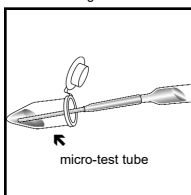

Figure 3
6. Holding the VACUette almost horizontally, touch the tip to the contents of the micro-test tube. Fig. 3